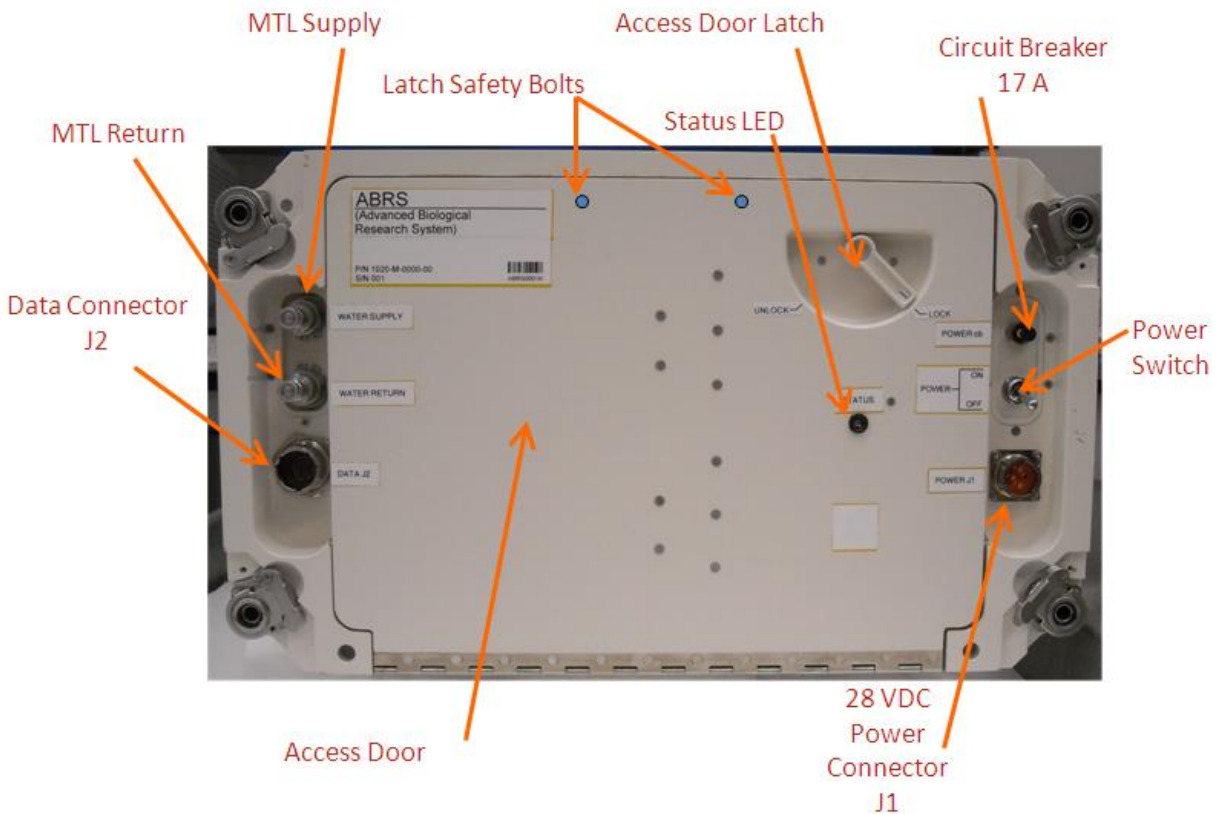

Figure 1. ABRS Access Door.
- MF28E 1.1 Remove Latch Safety Bolts (two) from ABRS door. Tape bolts to door with gray tape. Leave bolts in place until ABRS transfer complete (#1 Phillips screwdriver). Refer to Figure 1.